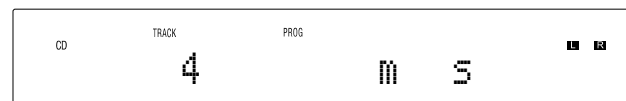

Figure 30
3. In a similar manner, enter the remaining Tracks 4 and 2. Refer to figures 30 thru 33.